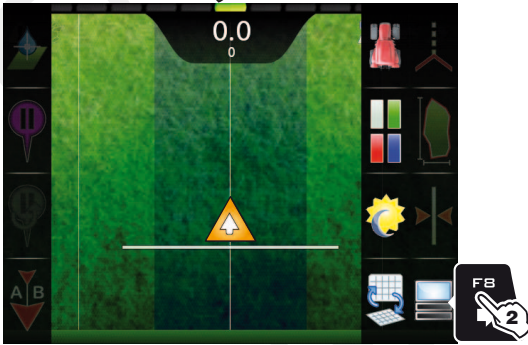

Fig. 363
- 2 Press **FB**. A list of options concerning display modes will appear (Fig. 363). Pressing each key will enable the corresponding function: